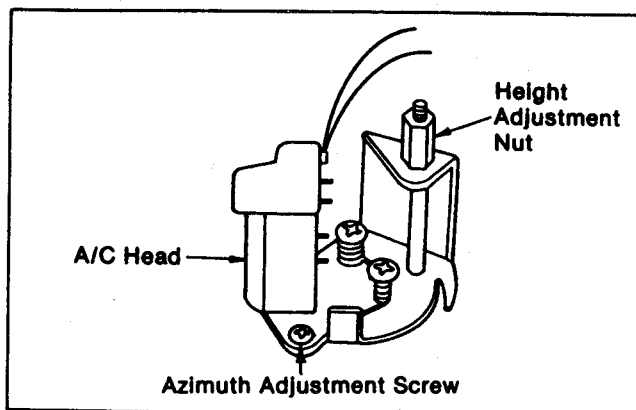

Fig. T6
- (1) Connect the oscilloscope to Audio Line Output.
- (2) Playback the Monoscope portion (6KHz, Mono) of the Alignment Tape.
- (3) Adjust the Azimuth Adjustment Screw on the A/C Head Base as shown in Fig.T6 so that output level is at a maximum.